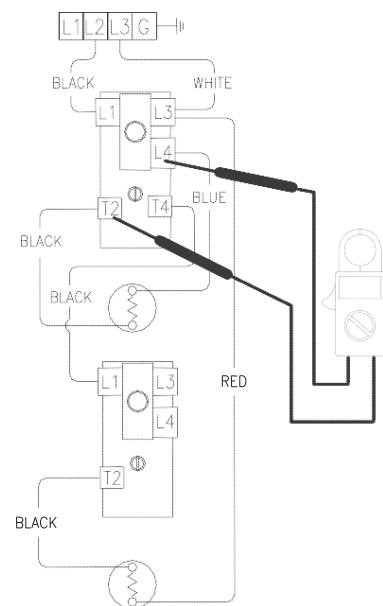

Figure 34
5. Check across terminal L4 & T2 of upper thermostat (see Figure 34).